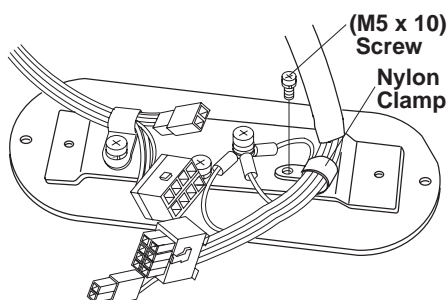

**Fig.3-12A** Attaching Grounded Wires on Bottom Cover
4. Secure the 3 wires (Grounded wires) together with ring terminals with the (M5 x 10mm) screw on the bottom cover. (**Fig.3-12A**)
**Note :** Three ring terminals should not protrude from a chassis plate. (**Fig.3-12A**)